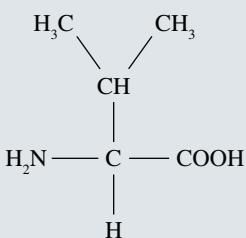

FIGURE 16.6.2 Valine.
- 10** Draw the structure of the zwitterion form of the amino acid valine (Figure 16.6.2).